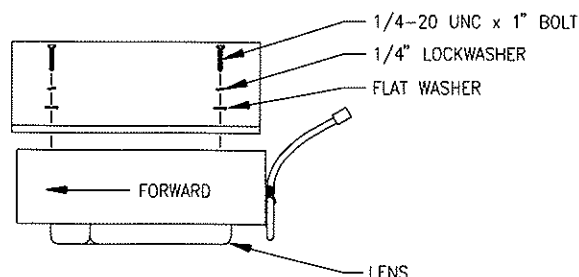

FIGURE 3
- 5) Bolt radar to mounting bracket using mounting hardware. See Figure 3.